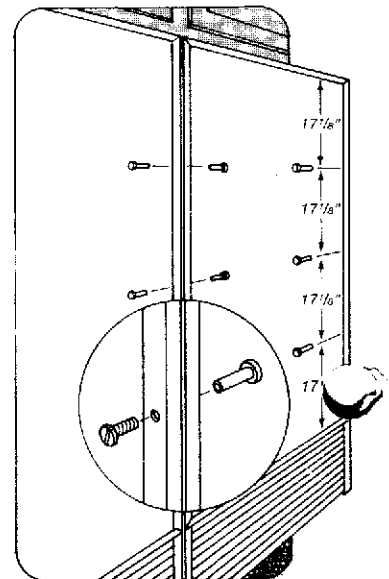
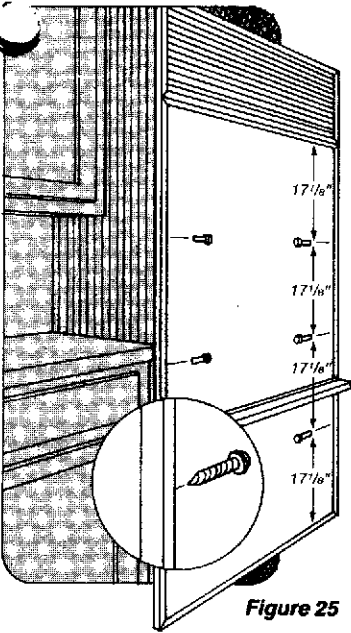

Figure 24
Figure 25
Figures 24 and 25 are examples.
**Instructions for product being tied together (see Figure 24):**
4) Drill three (3)  $\frac{3}{16}$ " holes (per specs in Figure 24) through both outer trims.
6) Install all six (6) Sems to the cabinetry.
**Instructions for fastening Models 501R, 501F, 550, 511, 561, 532, 542 and 590 to cabinetry (see Figure 25):**
1) Drill three (3)  $\frac{3}{16}$ " holes (per specs in Figure 25) through both outer trims.
3) Install all six (6) Sems.